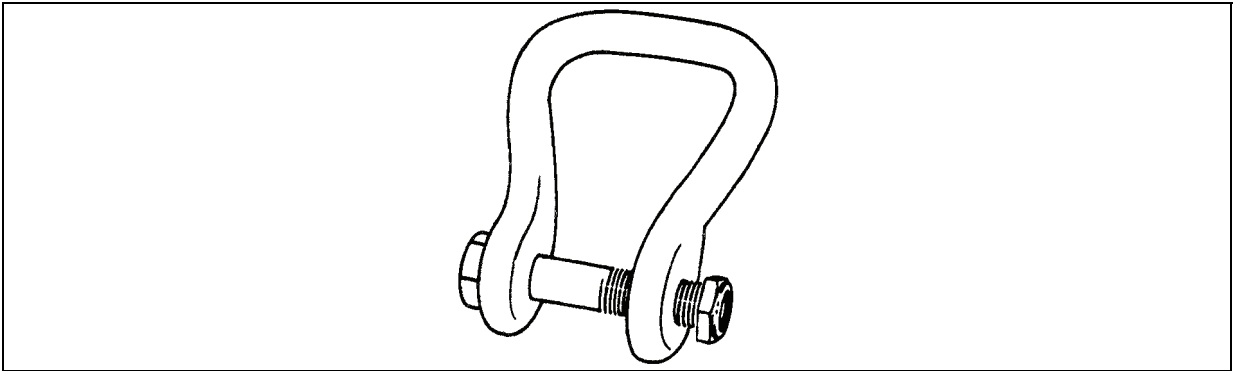

Figure 8-32. Large Clevis Assembly (Part No. MS 70087-3)
- **Large Clevis.** The large clevis (Figure 8-32) can be used to lift a load that weighs up to 12,500 pounds if it has only one attachment point. If the load has four attachment points and a large clevis is used at each lifting point, the maximum load weight that can be lifted is 31,500 pounds. If the load has two or three attachment points, the maximum load weight is 15,750 and 23,625 pounds, respectively. The large clevis is often used as a junction point when suspending an accompanying load under a howitzer. The large clevis uses a 1-inch bolt and nut.